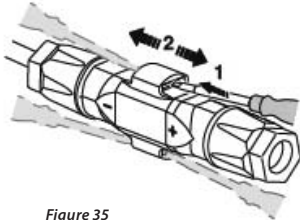

Figure 35
2.1 Connect the cable (Figure 35)